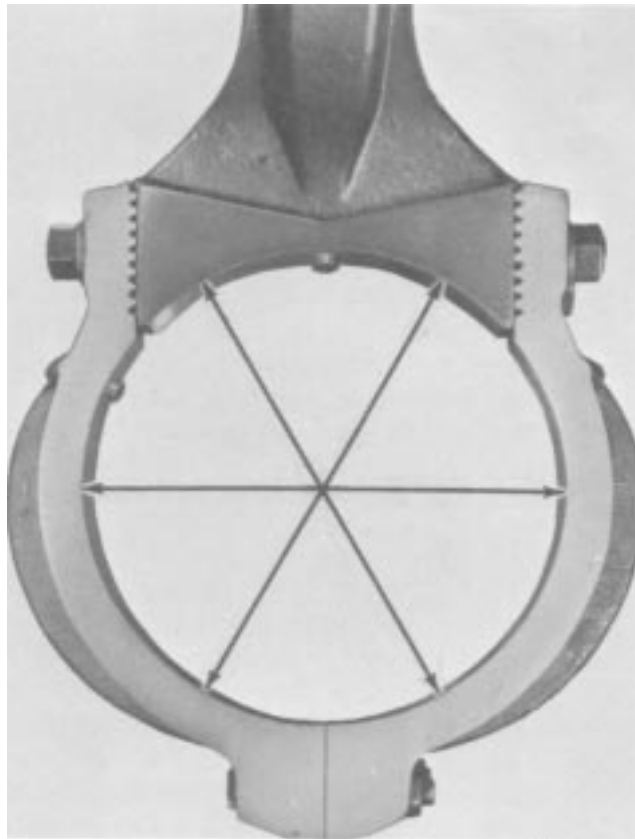

Figure 3-15. Checking Fork Rod Bore
- 4. Check fork rod bore by applying basket halves. Tighten the four basket-to-rod bolts and the three lower basket bolts finger tight, properly aligning each basket to the rod. Tighten the four basket-to-rod bolts to 14 ± 7 N·m (10 ± 5 ft-lbs), then tighten the three lower basket bolts to 14 ± 7 N·m (10 ± 5 ft-lbs) to firmly mesh the serrations. Check to make certain all washers are securely clamped using a “finger tightness check.” If a washer can be rotated when a twisting effect is applied with a finger grip, the bolt assembly should be removed and checked for cause of not clamping. Torque the basket-to-rod bolts to 258 N·m (190 ft-lbs), then torque the lower basket bolts (split line) to 102 N·m (75 ft-lbs). Measure bore at points 60° apart as indicated in Figure 3-15., on page 3-18. Take one set of measurements at the generator end of bore and one set at the accessory end of bore. The average of each set of dimensions must not exceed the specified maximum. If bore is beyond this dimension, the rod and basket should be reworked.
Torque upper basket bolts and lower basket (split line) bolts to specified values. Measure bearing bore at three points 60° apart. This is similar to the procedure used when checking fork rod basket bore, Figure 3-15., on page 3-18. The average of these three readings must not be less than is necessary to ensure a clearance between crankpin journal and bearing within the specified limits.